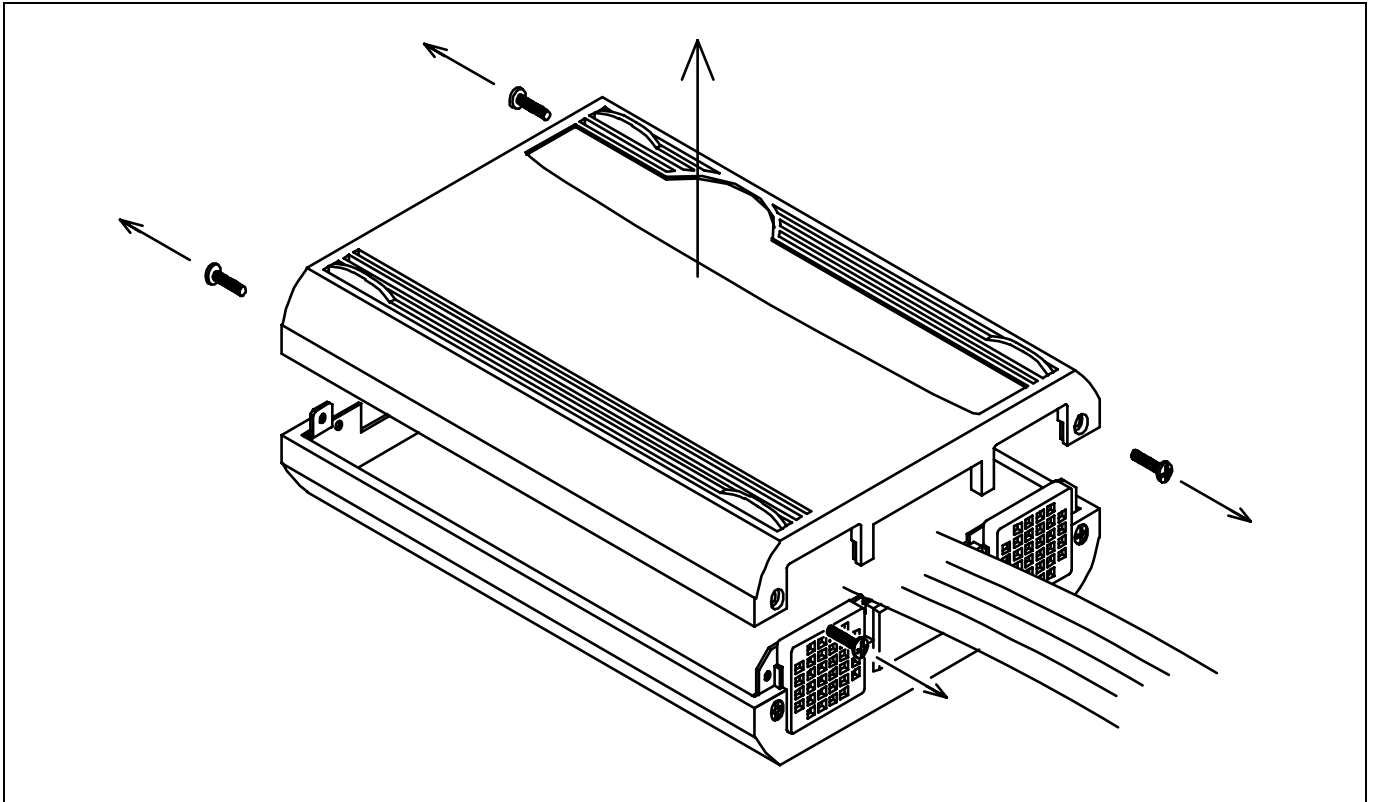

Figure 2.13 Removing the upper cover
1. Remove the four screws of both sides of this product and lift off the upper cover (see Figure 2.13).